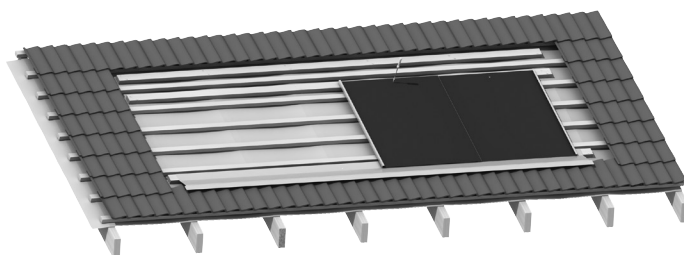

Figure 6-14b: Installation of Second Tray ('landscape' installations)
Fit first left hand (LH) half base tray (10-A), hooking the downwards facing return fold into the corresponding fold on the fixed RH half base tray. Position LH half base tray with lower edge along the fold line of the bottom flashing. Fix to middle batten using one of the self-drilling sealing screws provided in the installation kit at the centre of the upper edge – see Figure 6-14b.